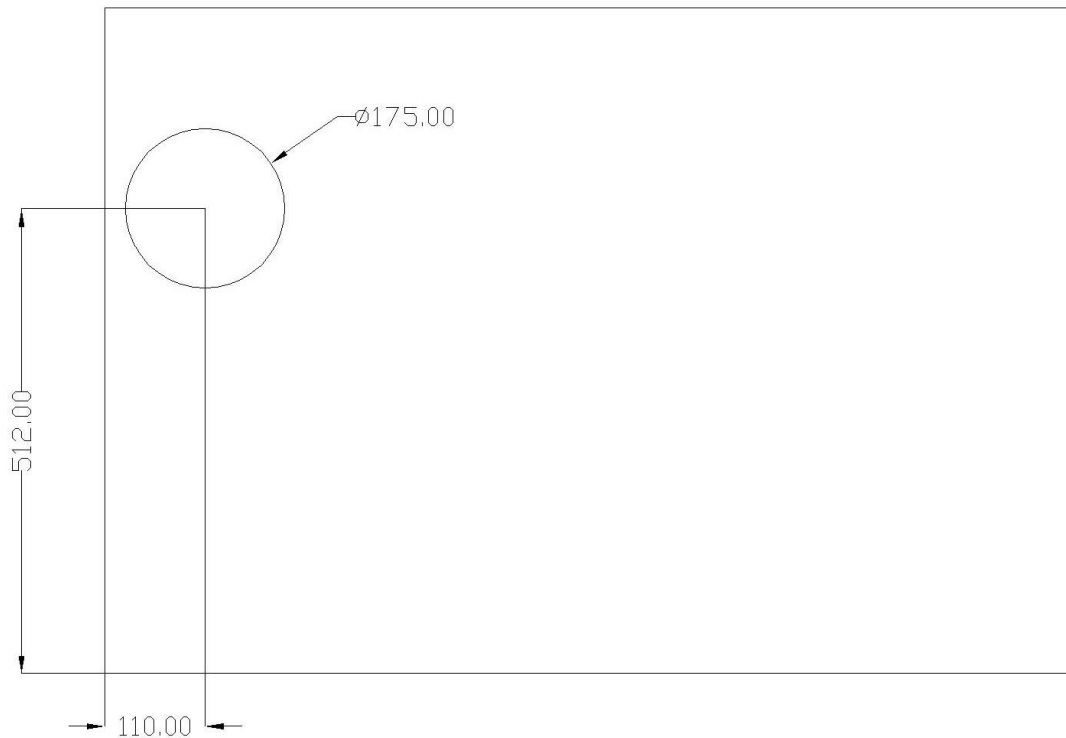

Fig 1:Rear of heater showing exact location of flue (shown from rear).
4. Refer to figure 1, and continue as described on previous page.